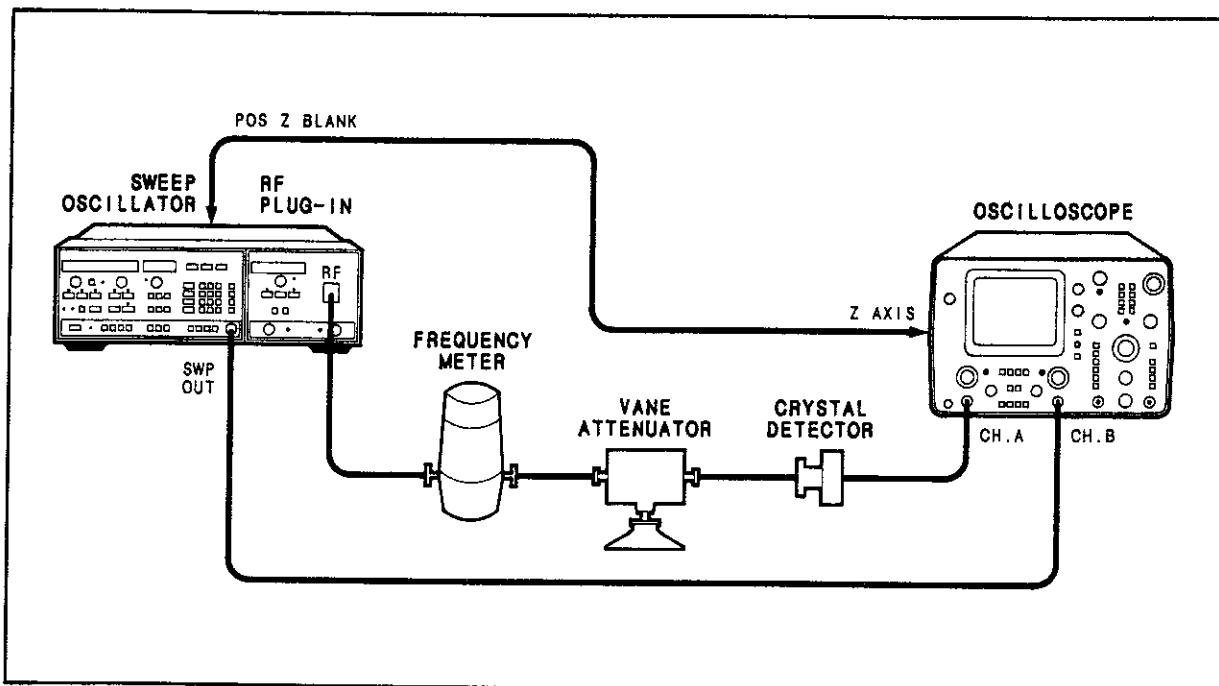

Figure 4-2. Swept Frequency Accuracy Test Setup
7. Connect the equipment as shown in Figure 4-2. Set the vane attenuator to 15 dB. Set the oscilloscope to A vs B mode; set channel A to 50 mV/DIV and channel B to 1V/DIV. Press 8350A/B **[INSTR PRESET]** **[SWEEP TIME]** **[1]** **[0]** **[5]** **[msec]**.